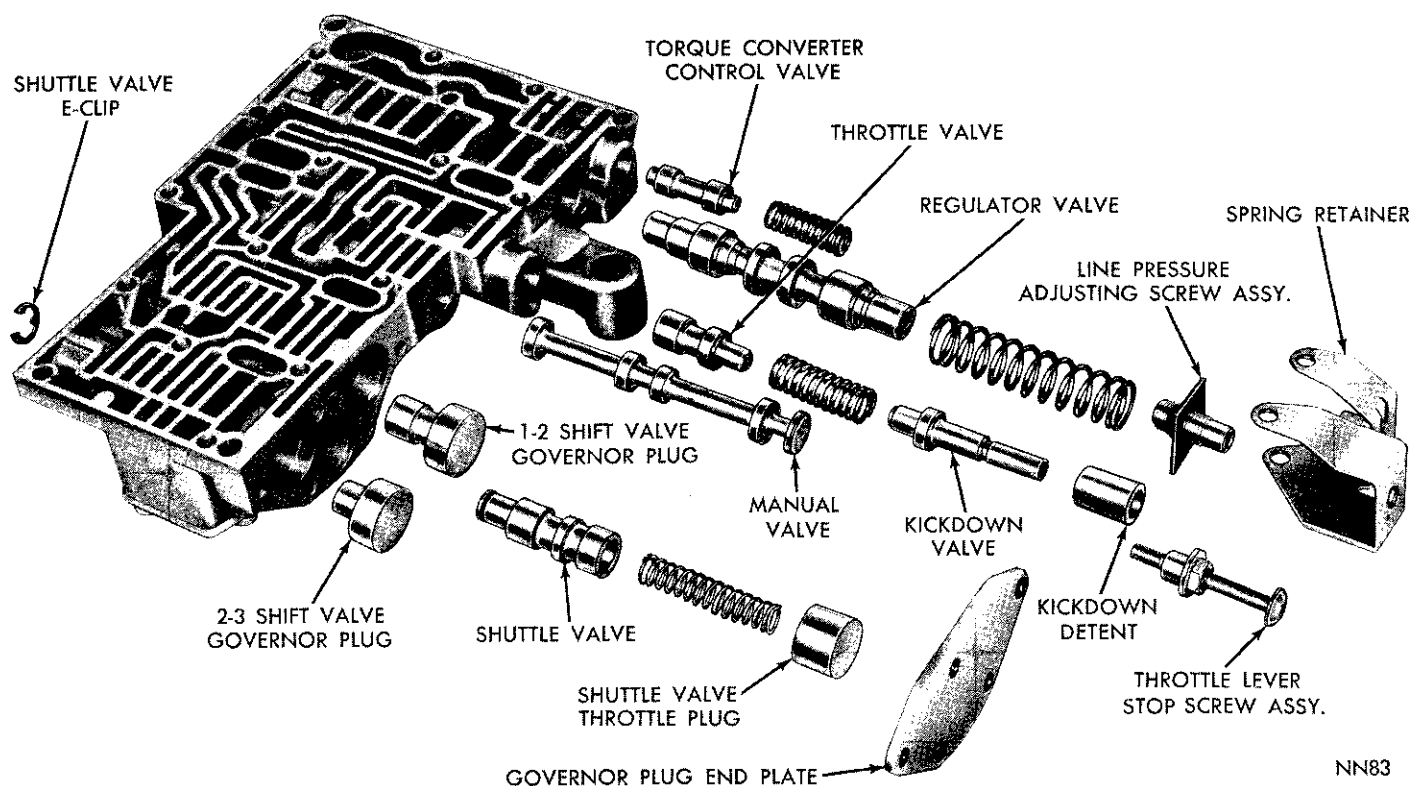

Fig. 45—Valve Body—Lever Side—Disassembled
(12) Remove throttle lever stop screw assembly (Fig. 45), being careful not to disturb the setting any more than is necessary.
(13) Remove kickdown detent, kickdown valve, throttle valve spring and the throttle valve.
(14) Remove the governor plug end plate (Fig. 45). Tip up valve body to allow shuttle valve throttle plug, spring, shuttle valve, and shift valve governor plugs to slide out into your hand.
(2) Place 1-2 and 2-3 shift valve governor plugs in their respective bores (Fig. 45). Install shuttle valve, spring and shuttle valve throttle plug. Install governor plug end plate and tighten the five retaining screws to 28 inch-pounds.
(6) Install throttle valve and spring (Fig. 45). Slide kickdown detent on the kickdown valve (counterbore side of detent toward valve), then install assembly in the valve body.
(7) Install throttle lever stop screw (Fig. 45), and tighten lock nut finger tight.
(8) Install manual valve in the valve body (Fig. 45).
(12) Position transfer plate assembly on the valve body. Install the retaining screws, starting at center and working outward, tighten screws to 35 inch-pounds.
(13) Install the torque converter valve and regulator valve (Fig. 45).
(14) Position the torque converter valve spring and regulator valve spring over ends of their respective valves. Place line pressure adjusting screw assembly on end of regulator valve spring with long dimension of nut at right angles to the valve body (Fig. 45).